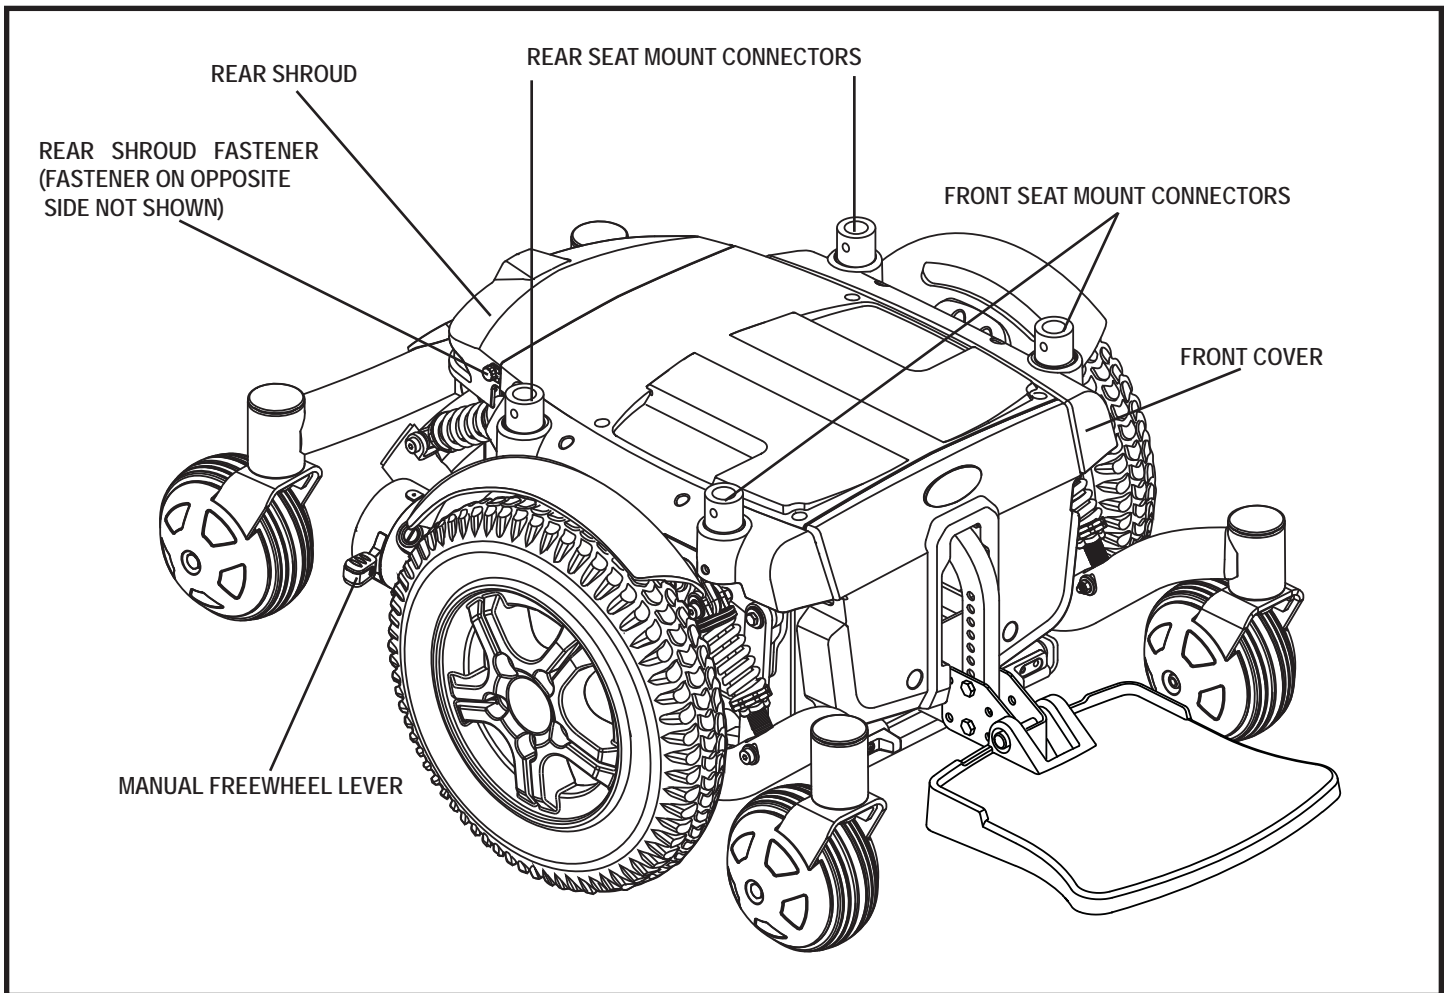

Figure 2. The Quantum 6000Z Series Power Base
5. Loosen the rear shroud fasteners and remove the rear shroud. **See figure 2.**
7. Replace the rear shroud and tighten the rear shroud fasteners. **See figure 2.**
3. Loosen the rear shroud fasteners and remove the rear shroud. **See figure 2.**